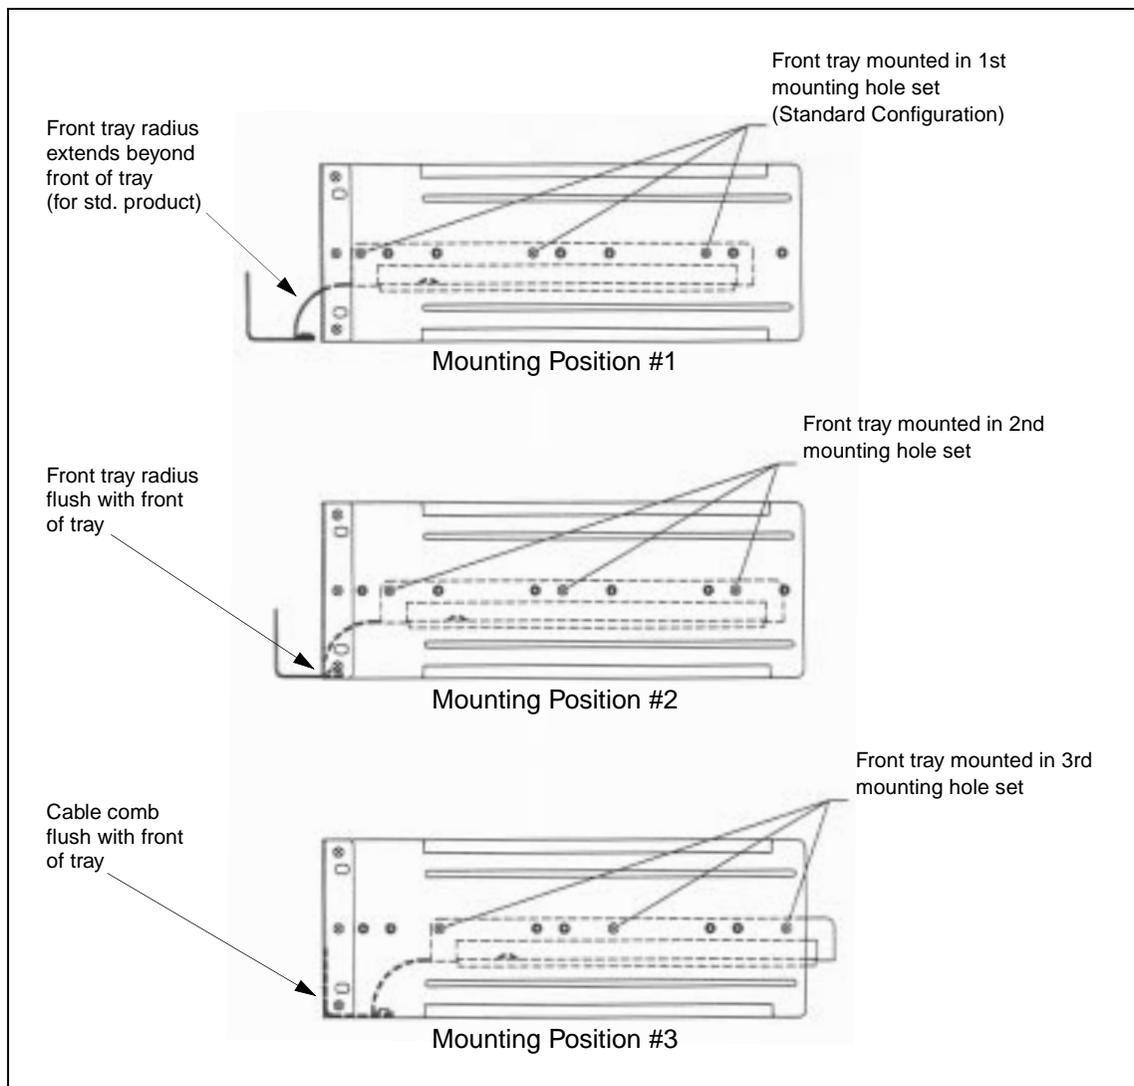

Figure 3 - Cable Management Mounting Options
The cable management tray can be adjusted to one of three positions, as shown in Figure 3. The cable management tray is shipped in position #1. To change the mounting position, follow the steps below:
1. Choose a desired position for the front of the management tray relative to the rack (see Figure 3).